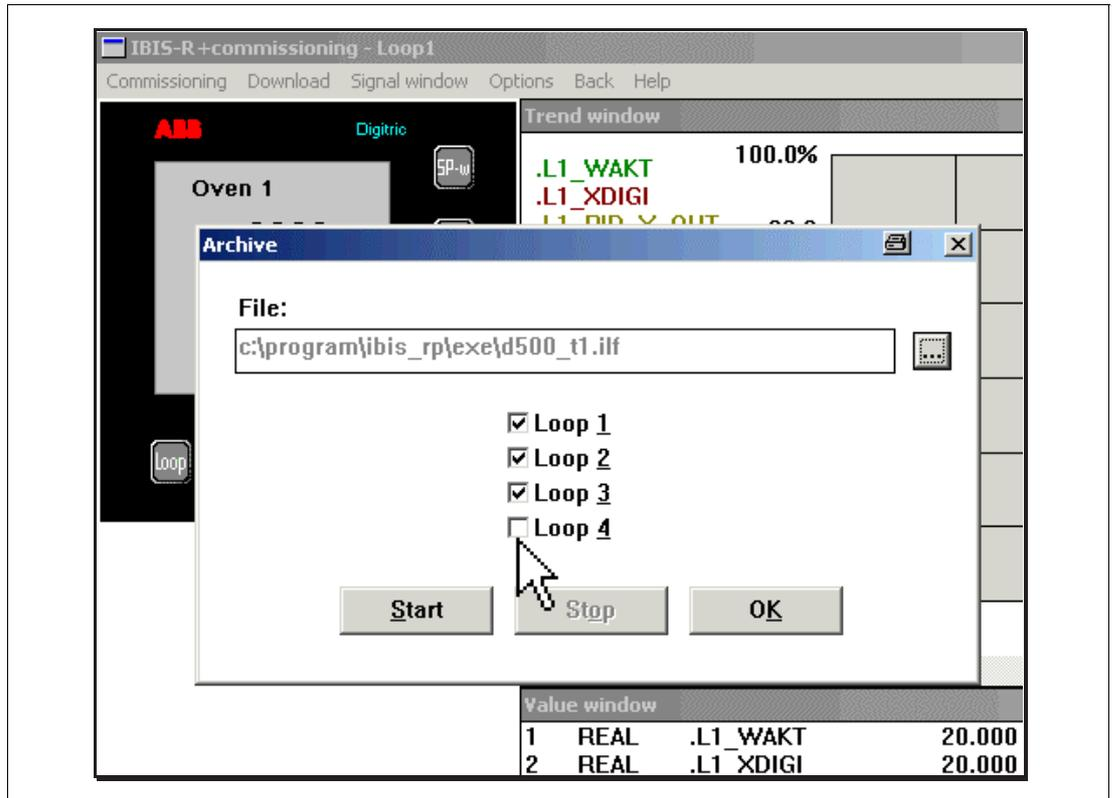

Fig. 2-3
- Choose those control loops in the "archiving window" you would like to record, s. Fig. 2-3. All variables (signals) defined before in the "value window" of the corresponding control loop are now being archived, independent of the momentarily observed loop.